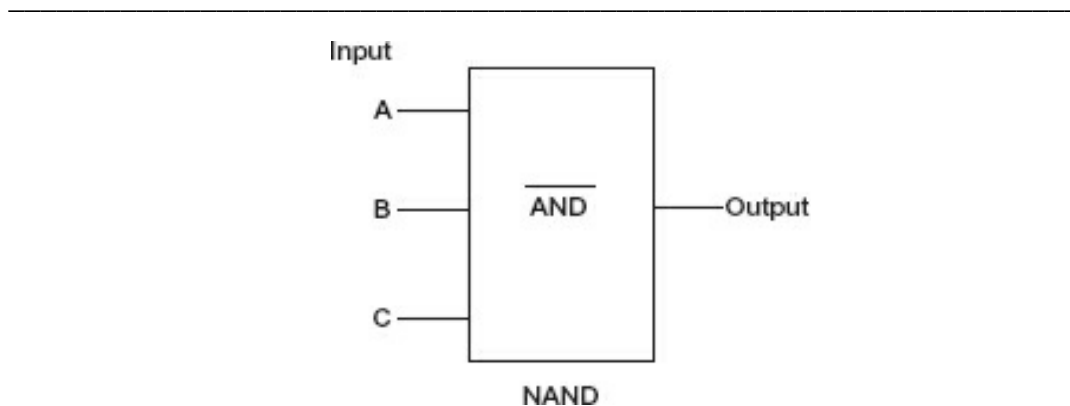

Figure R9-1. Circuit 1.
1. See Figure R9-1. In Circuit 1, inputs A = 1, B = 0, and C = 1. What is the output?